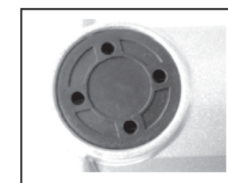

Fig 6
**Caution.** Prior to oil feeding, always disconnect the plug from the power supply receptacle. Since an oil chamber is built in this electric hammer chisel, it can be used for approximately 20 days without supplying lubrication oil, assuming that the chisel is used continuously 3 –4 hours daily. Feed oil into the oil tank as described below before using the hammer chisel. (See Fig 6 )
- (1) When the chisel is held upright look through the oil gauge window to see if oil is visible, if no oil shows oil must be installed before operating.